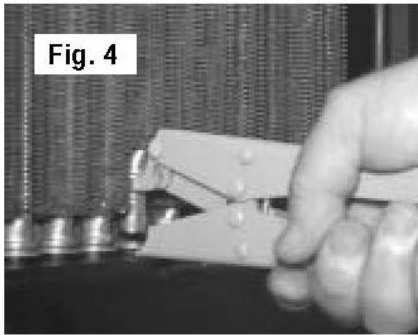

Fig. 4
**STEP 4.** Reposition tool, so the upper jaw is between the upset on the tube and the copper washer as shown in **Fig. 4**. Raise tube until bottom end clears the rubber seal.